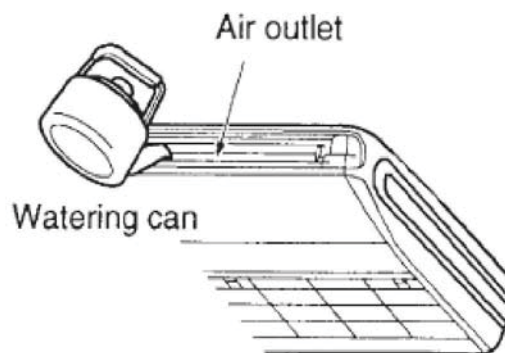

Figure 1-2-12
- ◆ Confirm that smooth drainage is achieved after the piping work. Pour 600 cc of water into the drain pan from the air outlet for confirming drainage. (Refer to Figure 1-2-12)